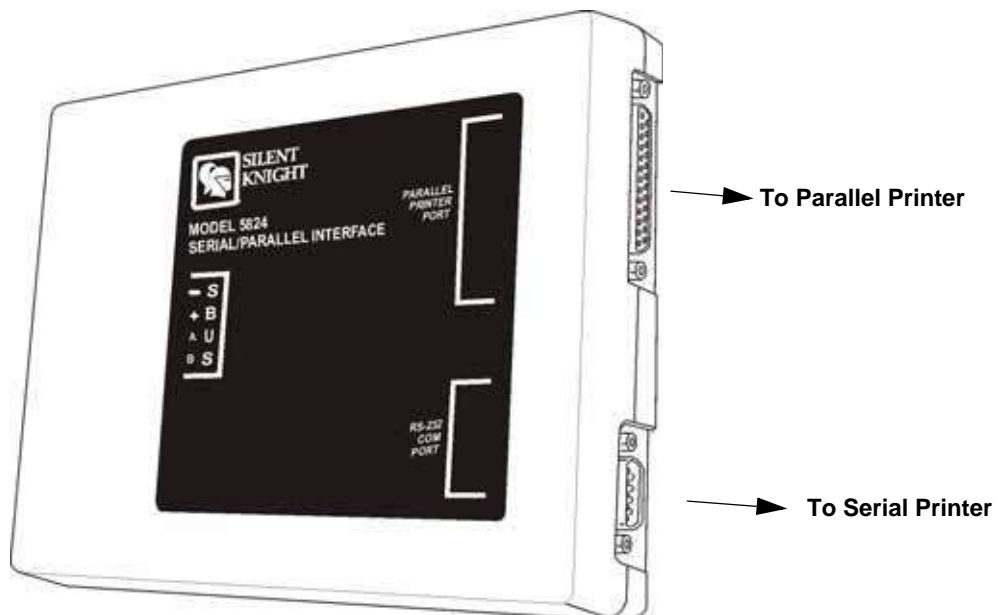

Figure 4-21 Printer Connection
5. Connect a printer to the 5824 as shown in Figure 4-21.